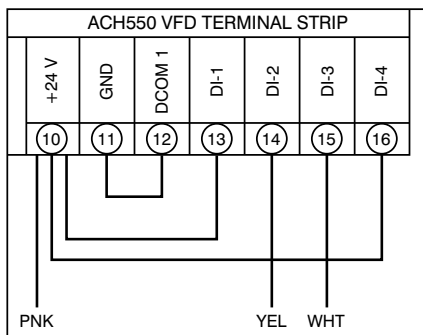

Fig. 26 — ACH550 VFD Wiring
- For ACH550 VFDs the voltage is sourced from the VFD at its terminal 10 (+24 V). 2-Speed Indoor Fan Motor speed inputs are received at terminals 14 (DI-2) for low speed (40 Hz) motor operation and 13 (DI-3) for high speed (60 Hz) motor operation. See Table 12 and Fig. 26 (on page 18).